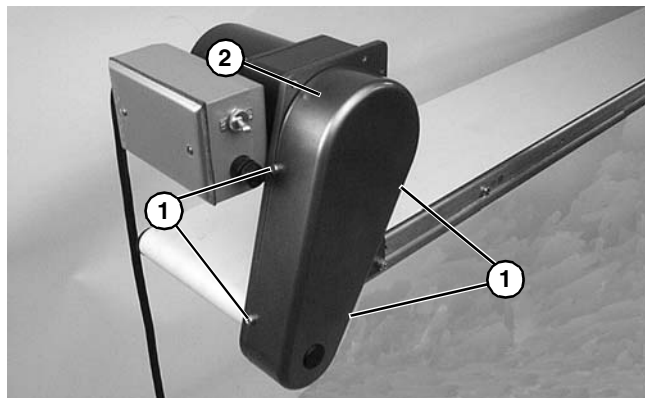

Figure 17
1. Remove four screws (**Figure 17, item 1**) and remove cover (**Figure 17, item 2**).
4. Install cover (**Figure 17, item 2**) with four (4) screws (**Figure 17, item 1**). Tighten screws to 35 in-lb (4 Nm).
1. Remove four (4) screws (**Figure 17, item 1**) and remove cover (**Figure 17, item 2**).
6. Install cover (**Figure 17, item 2**) with four (4) screws (**Figure 17, item 1**). Tighten screws to 35 in-lb (4 Nm).